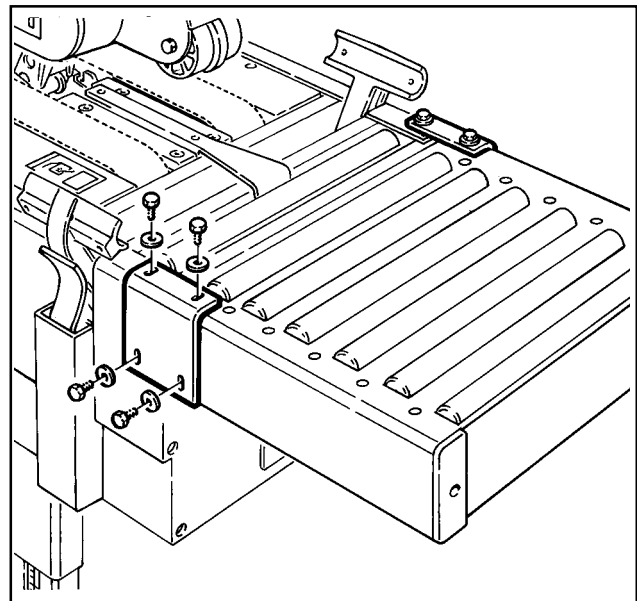

Figure 2-3 – Cover Plates
6. Refer to Figure 2-3. Set the cover plates over the joint between the conveyor and the frame on each side and secure them with four M8 x 15 screws and M8 washers.